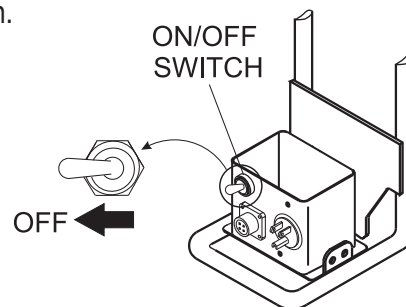

Figure 16. Power OFF/ON Switch (OFF Position)
1. Place the power ON/OFF switch (Figure 16) in the **OFF** position.